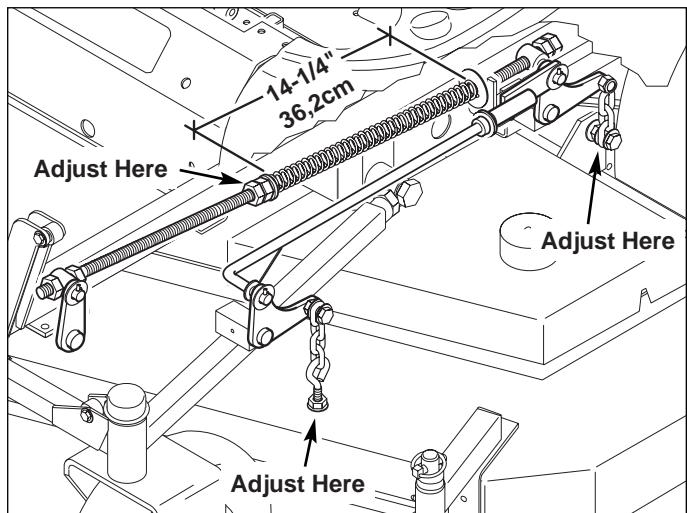

Figure 31. Deck Level & Spring Length Adjustment
6. Adjust the front eyebolts until the chains are tight and the deck is still resting on the 2 x 4's. Tighten jam nuts. See Figure 31.
7. Loosen the nuts and allow the rear of the deck to rest on the 2 x 4's and 1/4" spacers. Slide the chains down in the slots until the chains are tight and tighten the nuts. See Figure 31.
9. With the deck height adjustments complete and cutting height still set at 4", adjust the deck lift spring to a compressed length of 14-1/4" (36.2cm). Be sure to measure the spring only. Adjust the length of the deck lift spring by tightening or loosening the (2) 5/8" hex nuts that are closest to the spacer at the front end of the spring (see Figure 31). After adjustment is made, tighten these two nuts together. Perform this step to both springs.